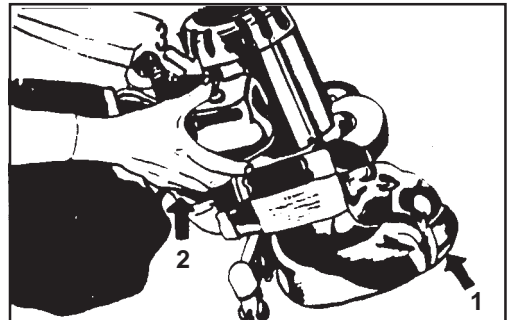

Figure 5
5. Tilt the machine back so that the sandpaper disc does not touch the floor. See (1) in Figure 5. Hold both handles. See (2) in Figure 5.
6. Put the On/Off switch in the "ON" position. See (3) in Figure 5.